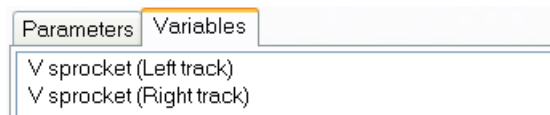

Figure 2.18. Test variables
- Open a graphic window and drag in it the test variables, which are circular velocities of sprockets, Figure 2.18.